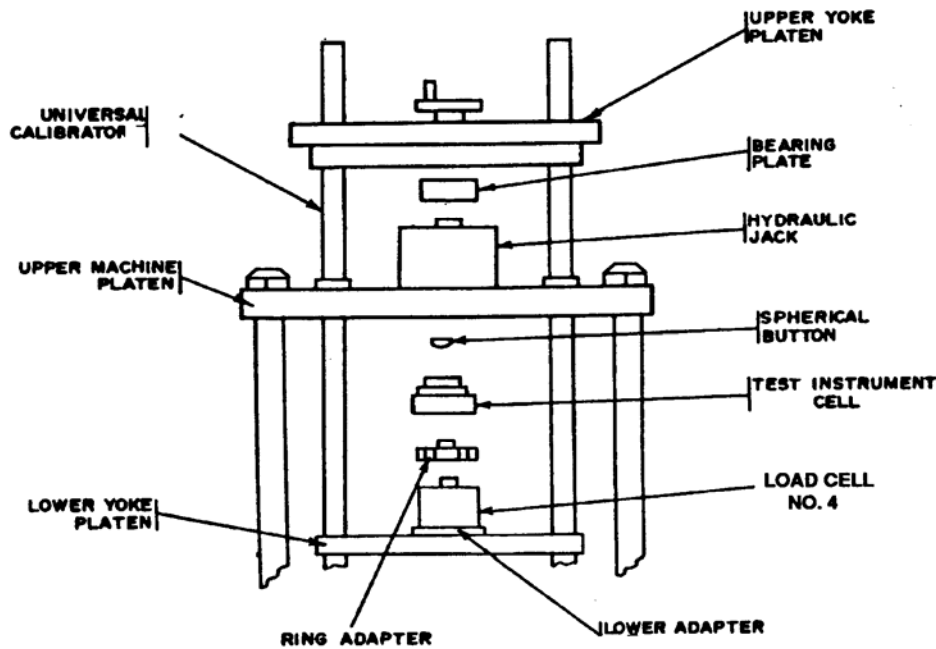
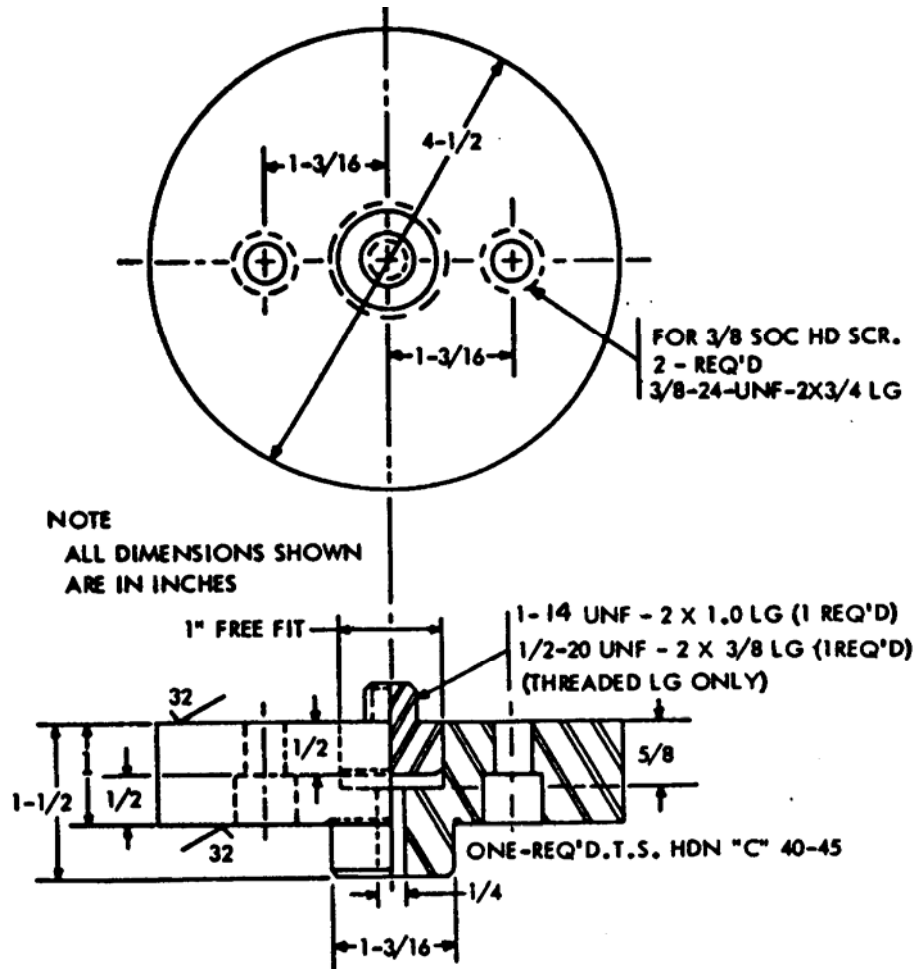

Figure 5. System equipment setup - alternate technique (reference).
Figure 6. Lower adapter.
(3) If 24 V dc is used as power source, operate **BATTERY VOLTAGE** switch and check polarity. If meter indication is in yellow area, change leads and operate **BATTERY VOLTAGE** switch again. If meter indication is in red area, battery voltage is either too high or too low and should be replaced.
(4) Allow sufficient time for equipment to warm-up and stabilize.
(5) Set up equipment as shown in figure 5. Use load cell No. 4 with compatible spherical button and TI cell No. 1 (red).
(6) Bolt LOWER ADAPTER (fig. 6) to bottom of load cell No. 4. Mount on LOWER YOKE PLATEN (fig. 5).
(16) Make sure that lower adapter (fig. 6) is tightly attached to load cell No. 4 after pressure is released.
(17) Set TI **INITIAL LOAD** switch to **10** and **WEIGHT** dial to 5000 pounds.
(18) Apply load for null condition as indicated on TI balance meter. If indication on load cell is not between 14,962.5 and 15,037.5 pounds, perform **b** below.